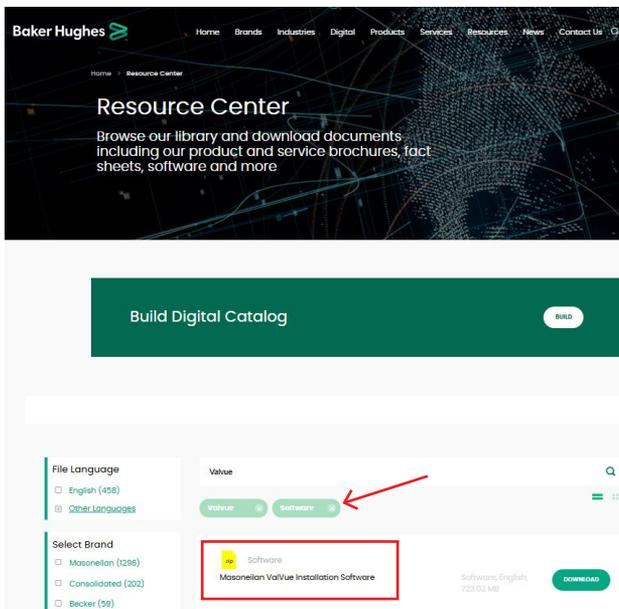

Figure 25 - Resource Center: Search for ValVue
1. Go to the Resource Library (<https://valves.bakerhughes.com/resource-center>) and enter ValVue in the search field (arrow in Figure 25).
The results appear in (red box in Figure 25).